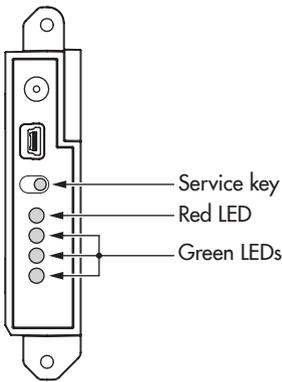

Fig. 8-4: Signal strength indication
1. Press the service key on the GSM module and hold for three seconds (see Fig. 8-4).